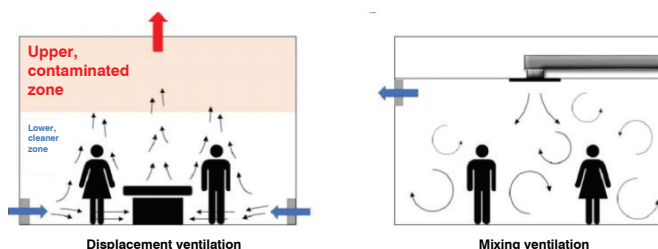

Fig. 5 Concept of Displacement Ventilation and Mixing Ventilation
In a displacement ventilation (DV) system, conditioned air is supplied at low velocity through diffusers located near the floor or low sidewalls. The supply air spreads gently across the floor, forming a clean air layer within the occupied zone. Heat sources such as patients, medical staff, lighting, and medical equipment generate thermal plumes that lift warm, contaminated air upward toward the ceiling, where it is exhausted. (Fig. 5)